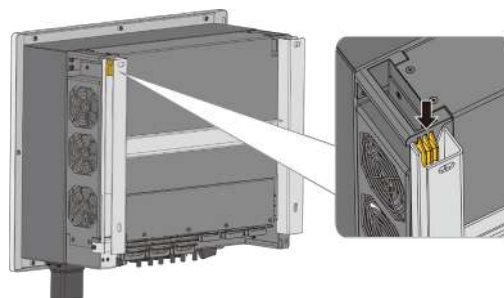

Fig. 11. Check that the device is secure
2. Fit the device onto the mounting bracket. Check both sides of the heat sink to ensure that it is securely in place. (see Fig. 11).